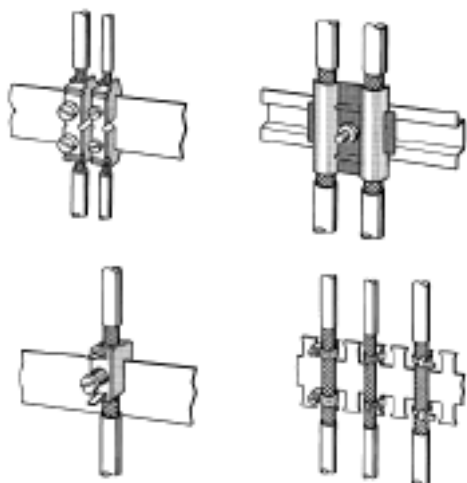

Fig. 7: Securing shielded lines using cable clamps and tube clips (schematic diagram)
- The clamps must fully enclose the shield and make good contact (see Fig. 7).
- ▶ Hang the top snap-in hooks of the module into the hat rail and press the underside onto the rail (as shown in Fig. 7) until it audibly clicks in.